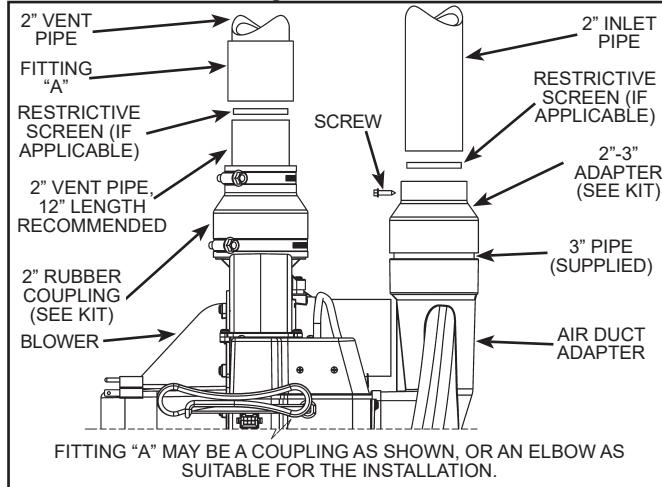
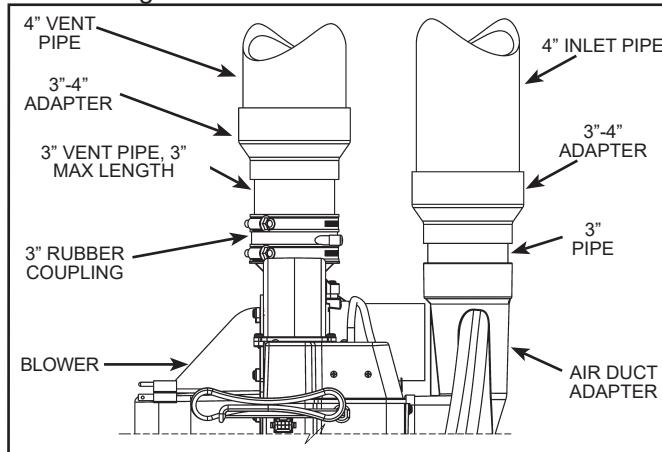

Figure 44.
Figure 46.
4. Make sure that the plastic tubing is still attached from the air pressure switch to the port on the blower motor housing. Make sure the plastic tubing is not folded anywhere between the pressure switch and the blower motor housing (see Figure 44 through Figure 46).
**Important:** These connections must be properly seated and tightened to prevent the leakage of flue gases into the area. See Figure 44 through Figure 46.
Figure 44 shows the configuration for heaters direct connected to 2" venting.
Figure 46 shows the configuration for heaters connected to 4" venting.
The restrictive screen (see Figure 38) and the air intake piping should be secured in place with a screw. To prevent damage to the equipment, first position the restrictive screen in place, then drill a pilot hole suitable for the screw being used. The screen must be fully seated and the screw should not interfere with the airflow through it. Once the pilot hole is drilled, place the intake pipe in position and secure in place using the screw (see Figure 44 through Figure 46). Do not use glue to secure this joint in order to allow the screen to be removed for cleaning. The screen in the exhaust piping should be located close to the blower and all exhaust piping joints should be glued.
If the installation requires restrictive screens (see Figure 38) the restrictive screens should be installed near the blower as shown in Figure 44 through Figure 46. If the restrictive screens are installed near the blower, it is recommended that debris screens (see Figure 38) be installed at the terminations.